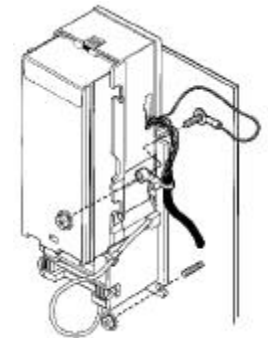

Figure 5
NOTE: On 110V units, attach the enclosed tie-wrap to the mounting stud closest to the harness connection on the Bill Acceptor. Pull tie-wrap tightly around harness wires, including ground wire (equipped with ring terminal), to provide strain relief. See Figure 5.
5. On 110V units, place the ring terminal of the ground wire onto one of the mounting studs and secure with appropriate hardware. See Figure 5.